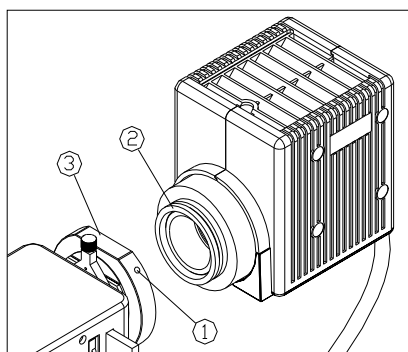

Fig.5
(1) Fully loosen the lock screw ① of the reflected illuminator. (See Fig. 5)